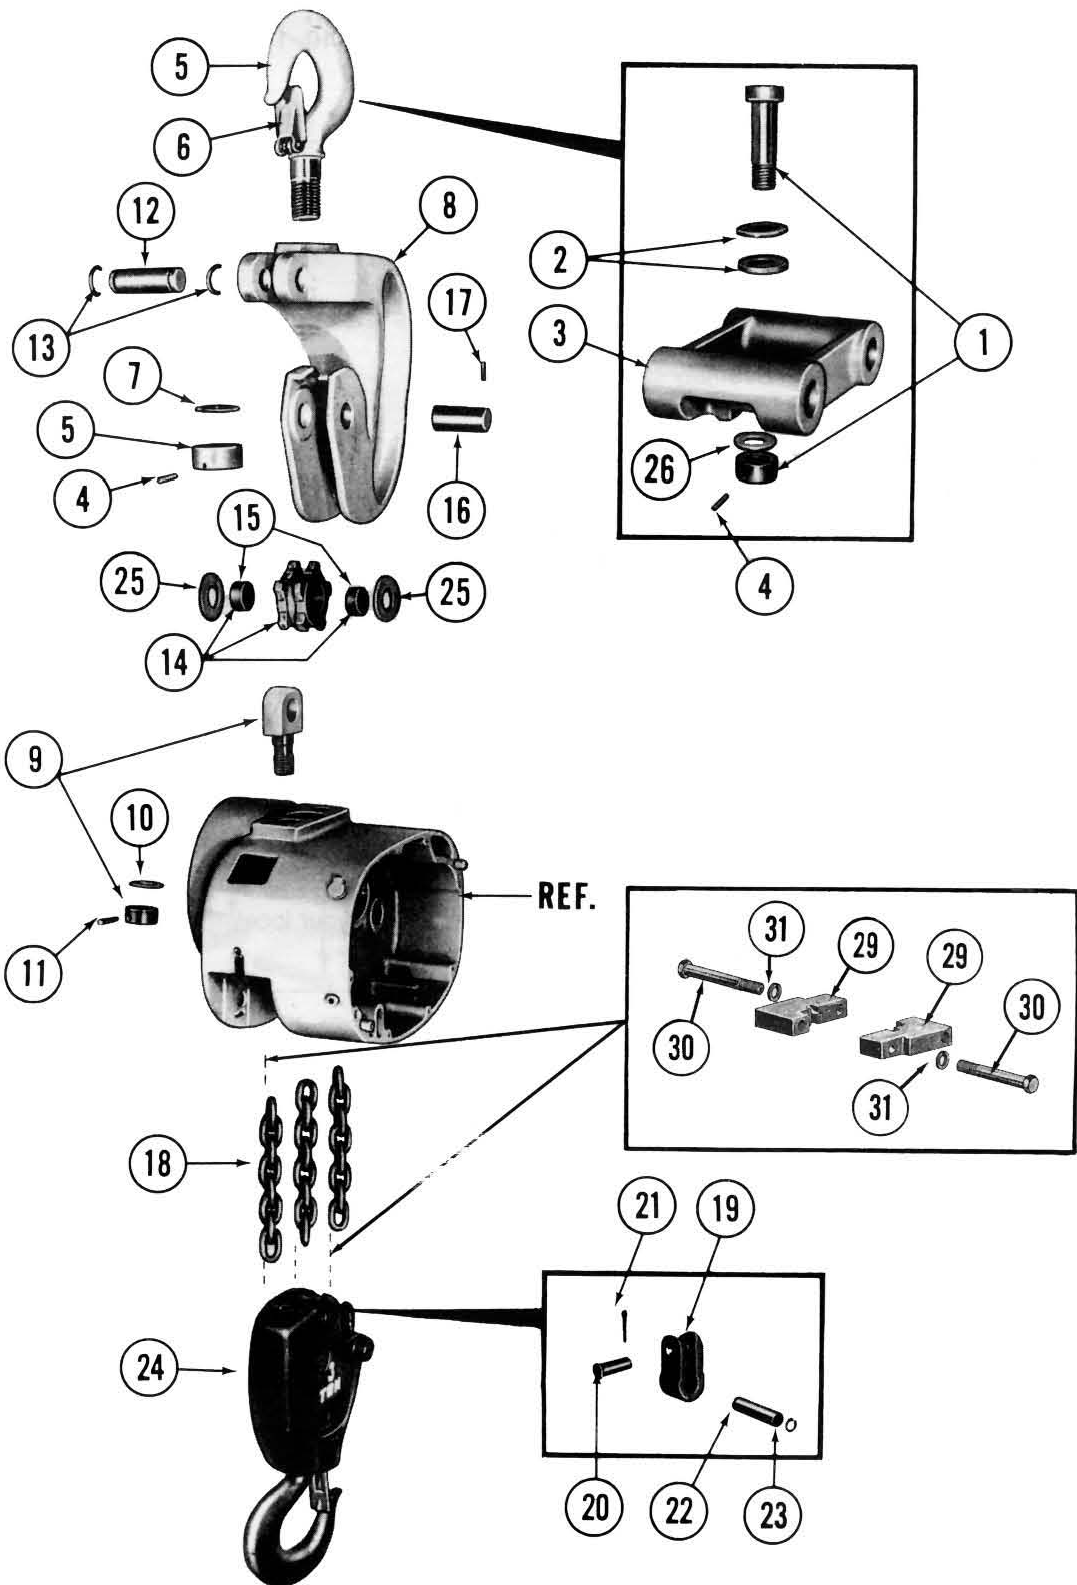

Figure 8-3. UPPER SUSPENSION, LOAD CHAIN AND LOWER BLOCK PARTS
* Refer to Figure 8-2 for 2 Ton Model Upper Suspension, Load Chain and Lower Block Parts. Refer to Figure 8-3 for 3 Ton Model Upper Suspension, Load Chain and Lower Block parts.